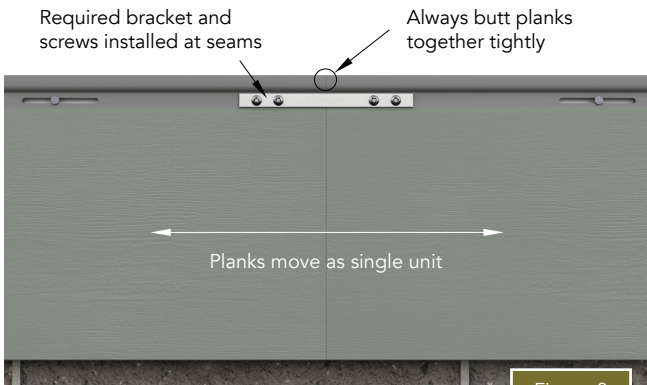

Figure 8
- Proper installation of seam brackets ensures all planks in a course are securely tied together and will be able to expand and contract freely as a single unit within pocketed trim (Figure 8).
- Butt planks together tightly at seams before installing the seam bracket (Figure 8).